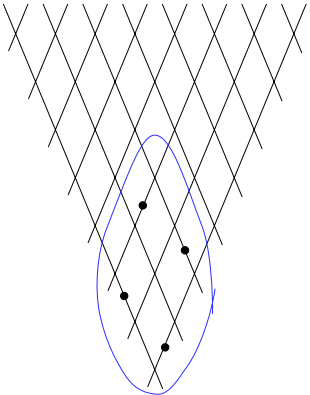

Fig. 2
3. Determine the system shape that you would like to achieve and create a sketch using the Constellation Aquarius Grid provided in Fig 2. This sketch will be used as a reference later.